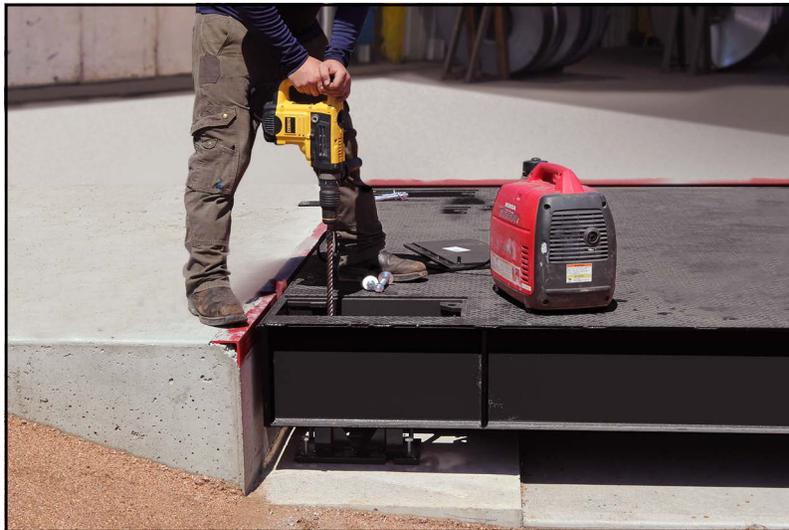

Figure 3-13. Drill Anchor Bolt Holes
4. Use an industrial hammer drill to drill a 3/4 inch hole into the concrete at least 6 inches deep on one side of the mount frame (see Figure 3-13 on page 14).